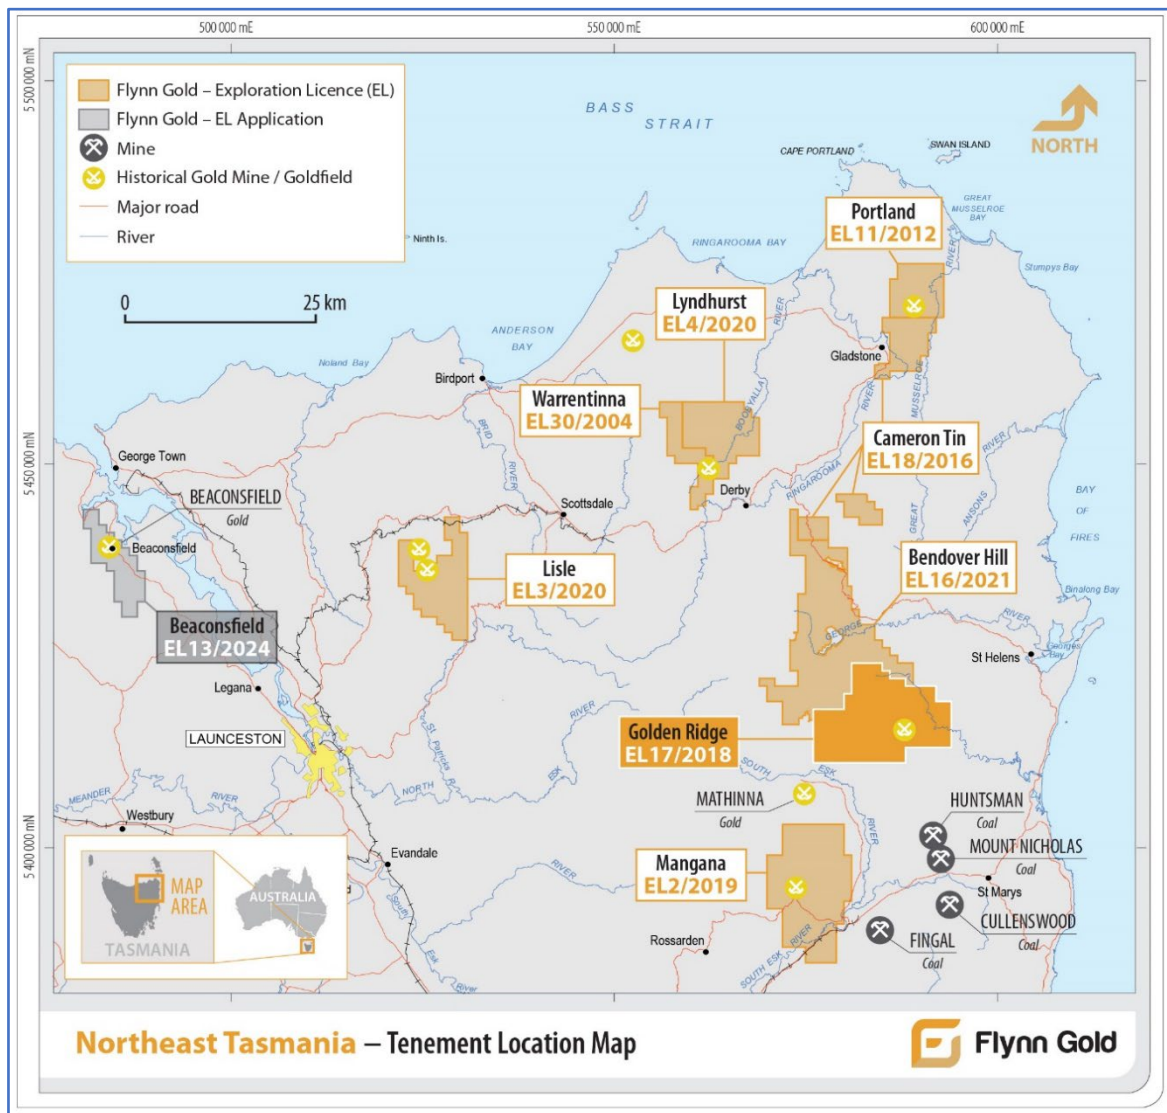

Figure 1 – Location of Flynn’s NE Tasmania projects, including the Golden Ridge Project
**Flynn Gold Limited (ASX: FG1, "Flynn" or "the Company")** is pleased to announce the discovery of significant gold mineralised quartz veining at the new Grenadier Prospect at the Company's flagship Golden Ridge Project, located in north-east Tasmania (see Figure 1).
The Company's flagship Golden Ridge Project is situated within EL17/2018 in North-east Tasmania (see Figure 1). The Trafalgar Prospect, along with Flynn's Brilliant and Link Zone prospects, occur within a 2.5km corridor of gold mineralisation that trends along a prospective granodiorite-metasediment contact.